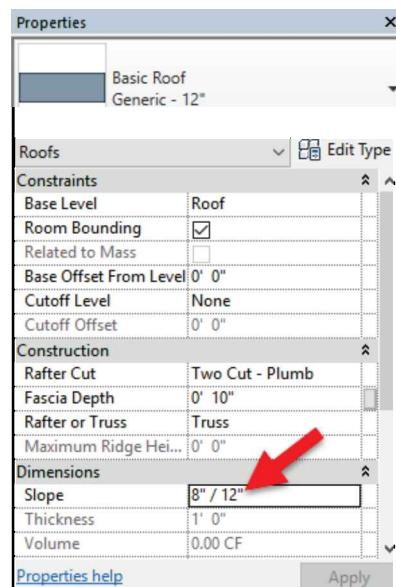

FIGURE 8-2.3 Roof Properties
9. Change the roof pitch, or *Slope*, to **8"** on the *Properties Palette* (Figure 8-2.3).